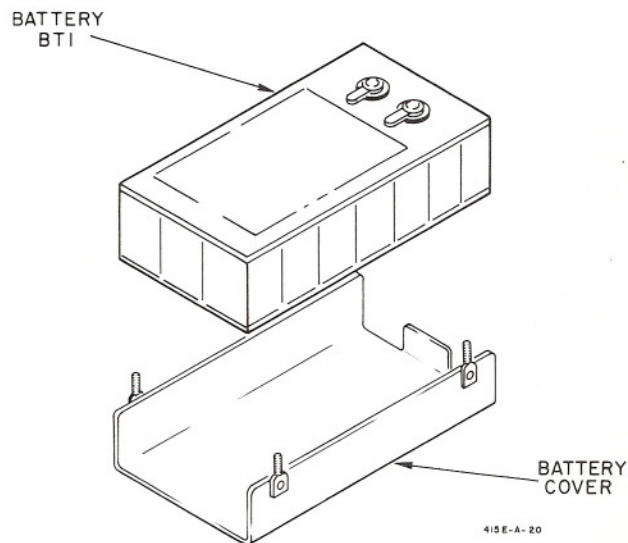

Figure A1-1. Battery and Battery Cover Assembly
- c. Refer to Figure A1-1 which shows the battery cover disassembled from the battery. Install the battery and battery cover from the bottom of the instrument into the top chassis. Note that the battery is installed so that the two battery terminals are toward the top and front of the instrument.